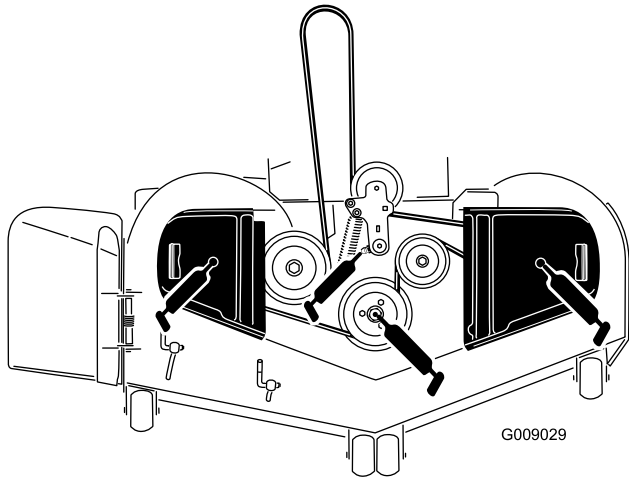

Figure 40
3. Grease the mower deck idler pulley pivot until grease come out the bottom (Figure 40).
4. Grease the three spindle bearings until grease comes out (Figure 40).
5. Grease the drive belt idler arm (Figure 40).